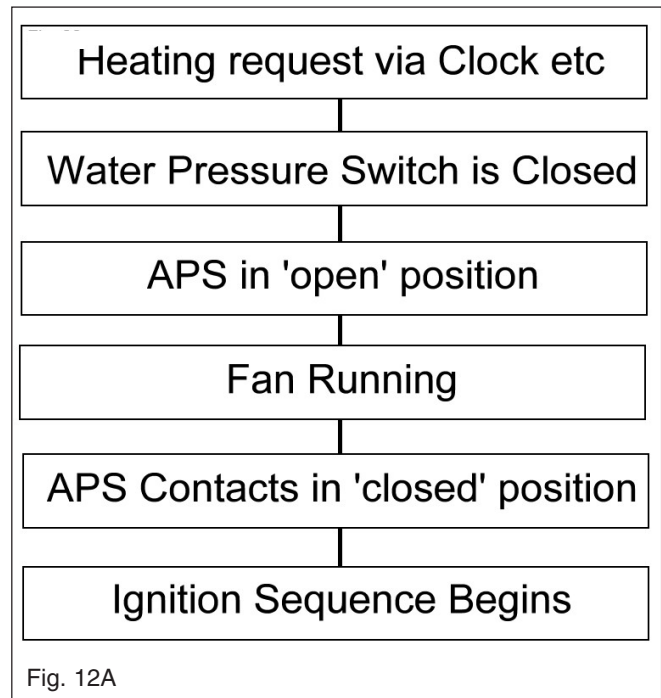

Fig. 12A
**7.2.4 HEATING MODE (fig. 12A)**